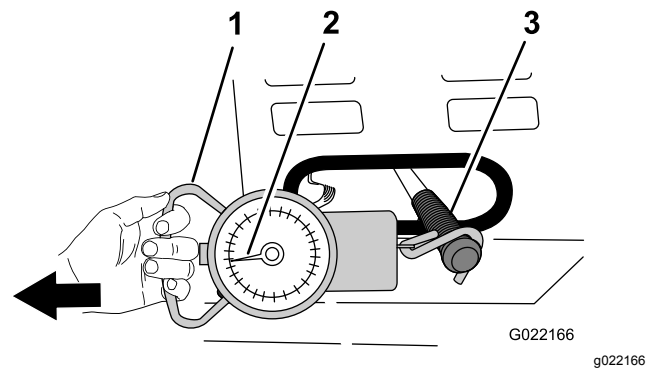

Figure 68
5. Using the spring scale, pull the clutch handle to the ON position as shown in Figure 68.
6. Observe the spring scale while pulling to see what the highest pressure is when moving the clutch handle from the OFF position to the ON position (Figure 68).
4. Attach a spring scale with a range of 15 to 30 kg (35 to 55 lb) to the grip of the clutch lever (Figure 68).